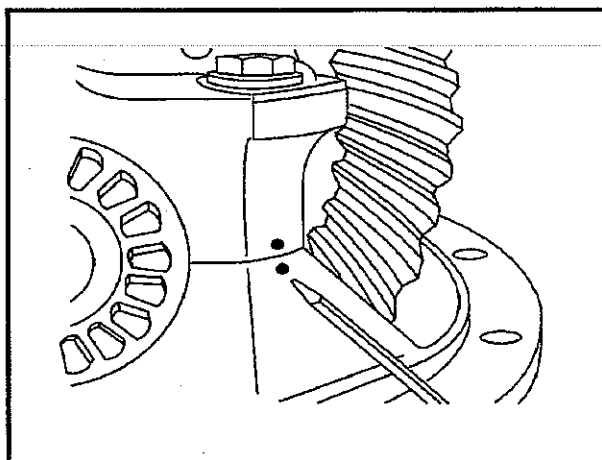

Figure 7—Match Mark
13. Match mark one differential bearing cap and leg with center punch. (See Figure 7—Match Mark.)